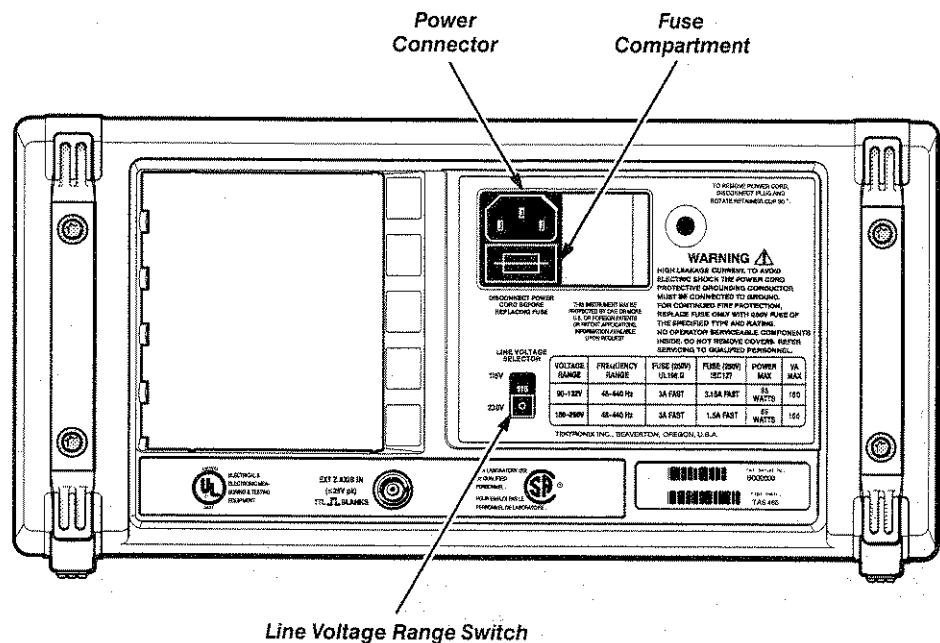

Figure 2-1: Rear Panel
2. Check that the Line Voltage Range switch (Figure 2-1) is at the proper setting for your power system.
4. Connect the proper power cord from the rear-panel power connector (Figure 2-1) to the power system.